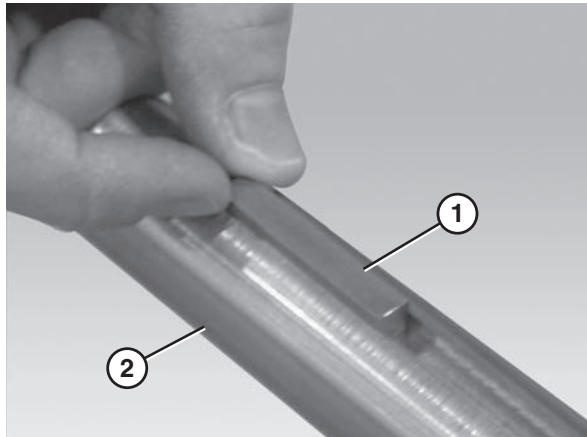

Figure 23
7. Insert the motor output shaft key (Figure 23, item 1) into the motor output shaft keyway (Figure 23, item 2).